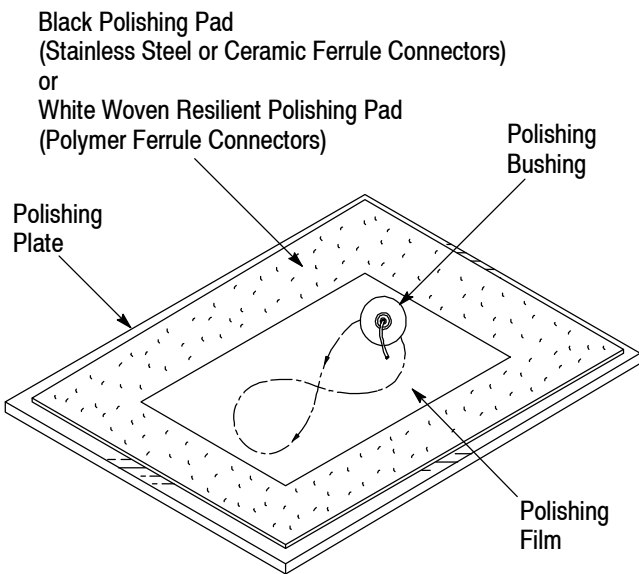

Figure 18
4. For polymer ferrule connectors, remove the adhesive backing from the white woven resilient polishing pad, then place the pad on the polishing plate. See Figure 18.
For the stainless steel and ceramic ferrule connectors, remove the adhesive backing from the black polishing pad, then place the pad on the polishing plate. See Figure 18.
7. Gently insert the connector into the polishing bushing, and move the bushing in a figure-8 pattern, supporting the weight of the connector for the first three figure-8 patterns to prevent the fiber from breaking or scoring the film. See Figure 18.